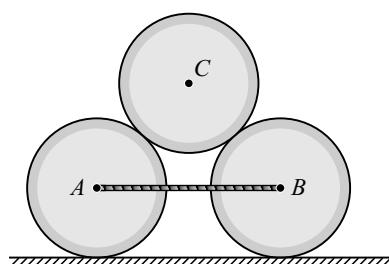

Fig. 3.17(a)
Two smooth circular cylinder is of weight $W = 500 \text{ N}$ each and radius $r = 150 \text{ mm}$ are connected at their centre by a string of length $l = 400 \text{ mm}$ and rest upon a horizontal plane supporting above them a third cylinder of weight 1000 N and radius $r = 150 \text{ mm}$ as shown in Fig. 3.17(a). Find the tension in the string and pressure at the points of contact D and E .
- (i) Consider the ΔABC and simplify its geometric length and angle, as shown in Fig. 3.17(b).